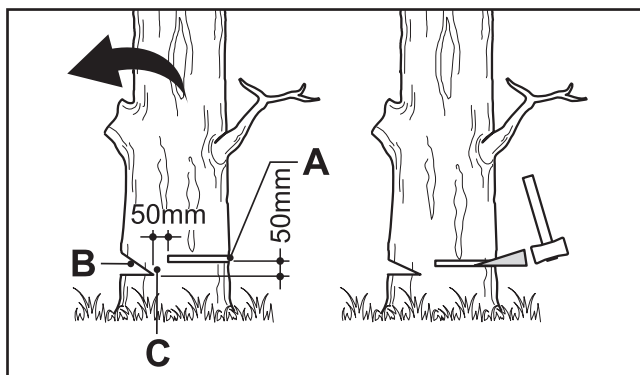

Fig. 27
Make the notch (Fig. 27, B) 1/3 the diameter of the tree, perpendicular to the direction of fall (Fig. 27). Make the lower horizontal notching cut first. This will help to avoid pinching either the saw chain or the guide bar when the second notch is being made.
1. Make the felling back cut (Fig. 27, A) at least 50 mm higher than the horizontal notching cut (Fig. 27). Keep the felling back cut parallel to the horizontal notching cut. Make the felling back cut so enough wood is left to act as a hinge. The hinge wood (Fig. 27, C) keeps the tree from twisting and falling in the wrong direction. Do not cut through the hinge.